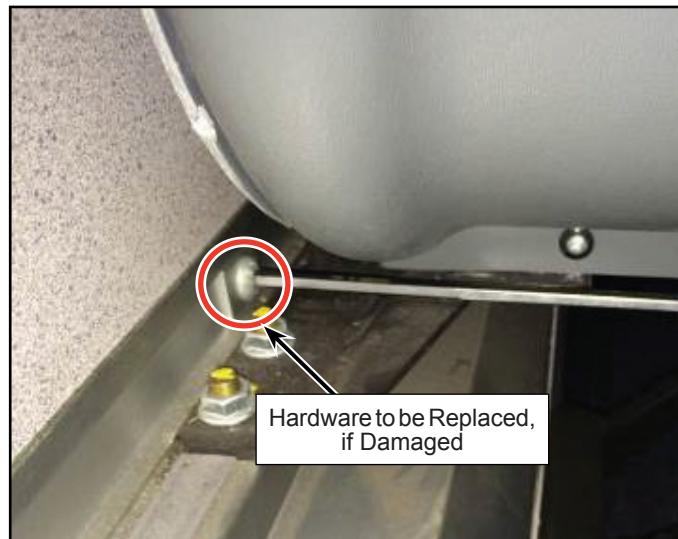

Figure 23 - Installation of Damaged Hardware to attach Seat Rail on Wall
- 2.20. Replace the damaged hardware with new hardware provided (see Figure 23).